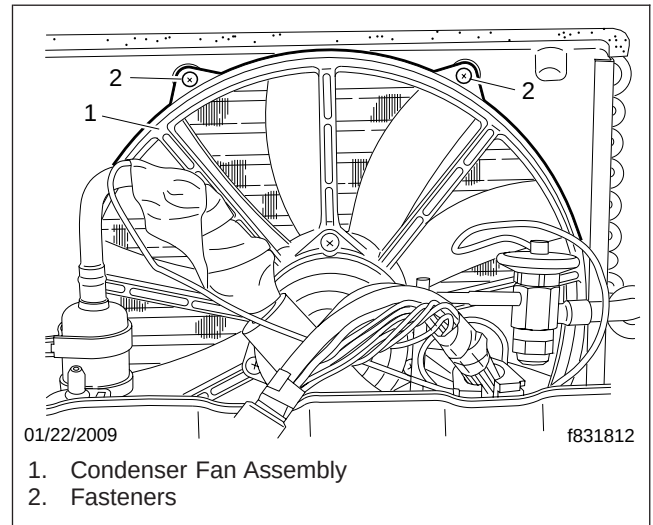

Fig. 9, Condenser Fan Assembly Installation
24. Remove the fasteners, and lift the condenser fan assembly up. See Fig. 9.